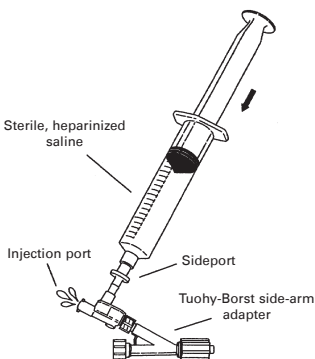

Fig. 2
4. Connect the dual check valve to the clear Tuohy-Borst adapter. The Tuohy-Borst valve should be closed completely. Connect a 20 ml heparinized saline-filled syringe to the sideport of the dual check valve adapter and slowly purge air from the injection port. **(Fig. 2)**